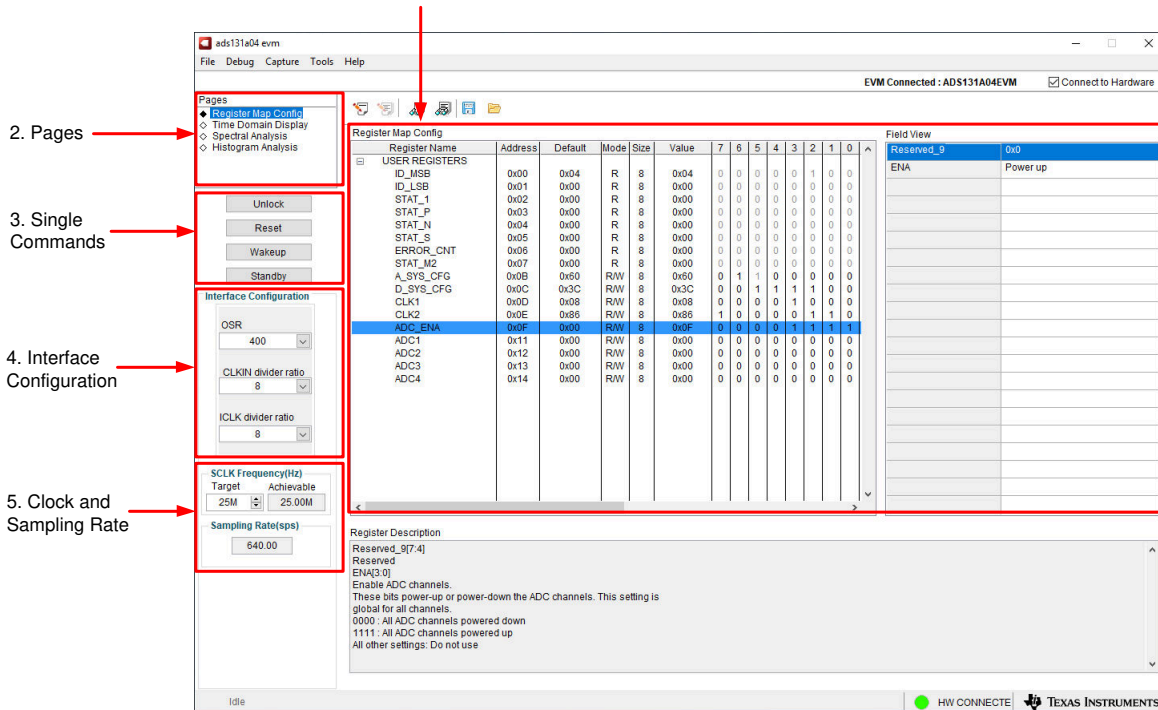

Figure 2-3. EVM GUI Global Input Parameters
- Click the Wake Up and then Unlock button in the Single commands section of the GUI and start using the ADS1282EVM GUI to evaluate the EVM as shown in Figure 2-3. Learn more about EVM GUI Global Input Parameters and the various pages within the GUI in Section 7.1.